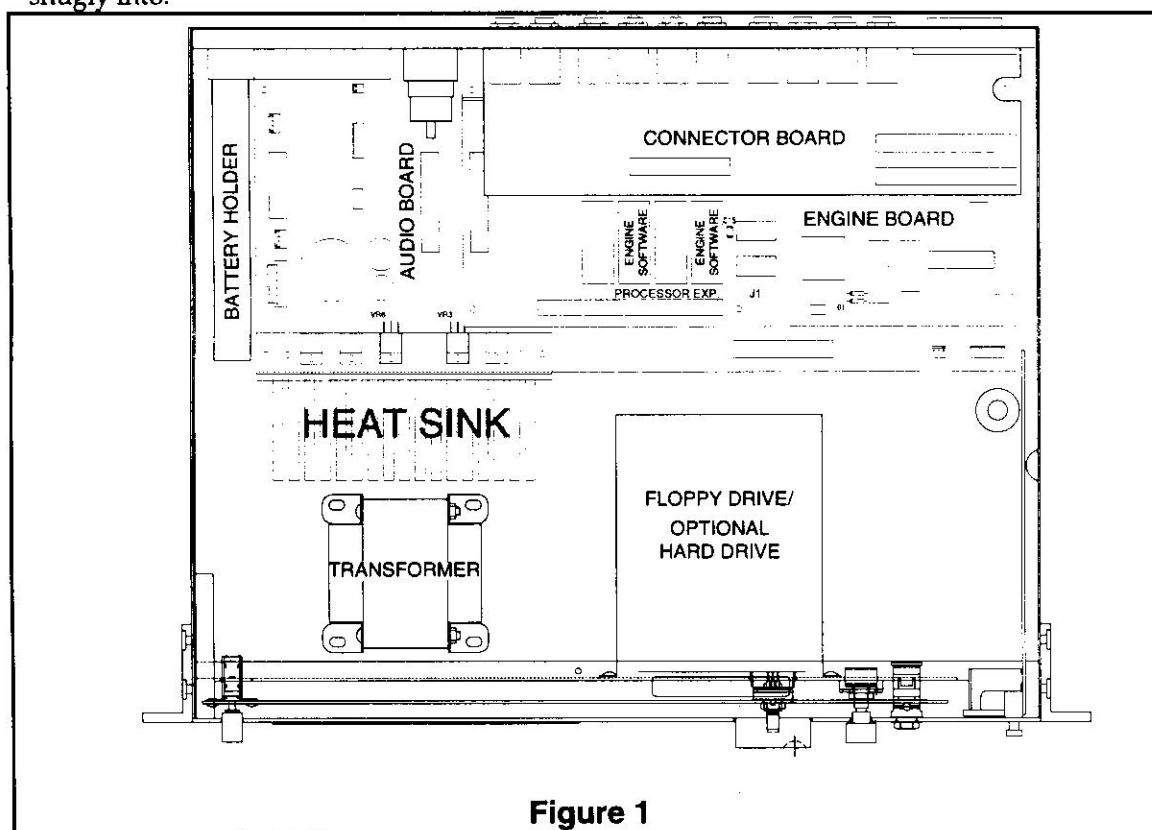

Figure 1
3. See Figure 1. Lift the cover from the back, slide it off and place it aside.
1. See Figure 1. Locate the Connector PCB. It is the board with the ten 1/4" phone jacks on it.